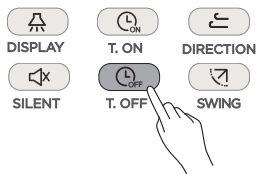

Figure 3.15
- ② Press  to adjust the timer settings;
- ③ Once the adjustment is done, the timer information is sent to the indoor unit.
- ① Press  (see Figure 3.15), and the remote controller will display "Timer Off", and "0.0h Later Off" will appear in timer area. Adjust the Timer Off settings now;